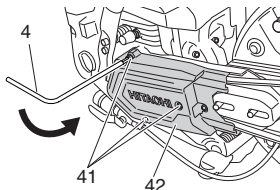

Fig. 36
2. Loosen the three bolts (41) on the clutch cover (42) and remove clutch cover (42). (Fig. 36)